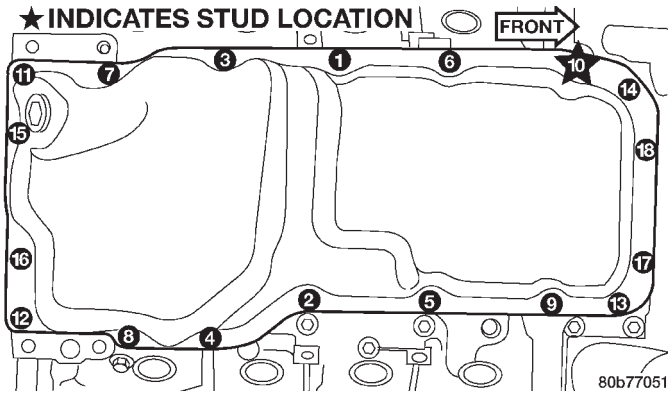

Fig. 92 Oil Pan Tightening Sequence
- (3) Install oil pump pick-up tube using a new O-ring. First tighten bolt at O-ring end of tube to 28 N·m (20 ft. lbs.). Tighten remain tube support fasteners to 28 N·m (20 ft. lbs.).
- (4) Install oil pan and tighten fasteners to 15 N·m (11 ft. lbs.) (Fig. 92).
- (5) Reconnect transmission oil cooler lines to oil pan stud bolt.
- (6) Install starter.
- (7) Install exhaust system Y-pipe.